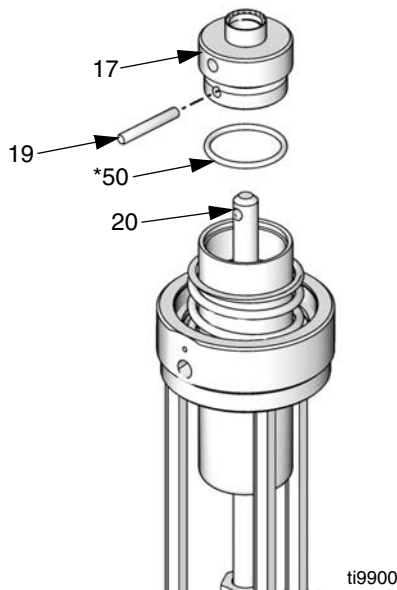

FIG. 14
- Series A air motors only:* Remove dowel pin (19) and take piston cap (17) off transfer shaft (20). Discard items 17, 19, 50. See FIG. 14.